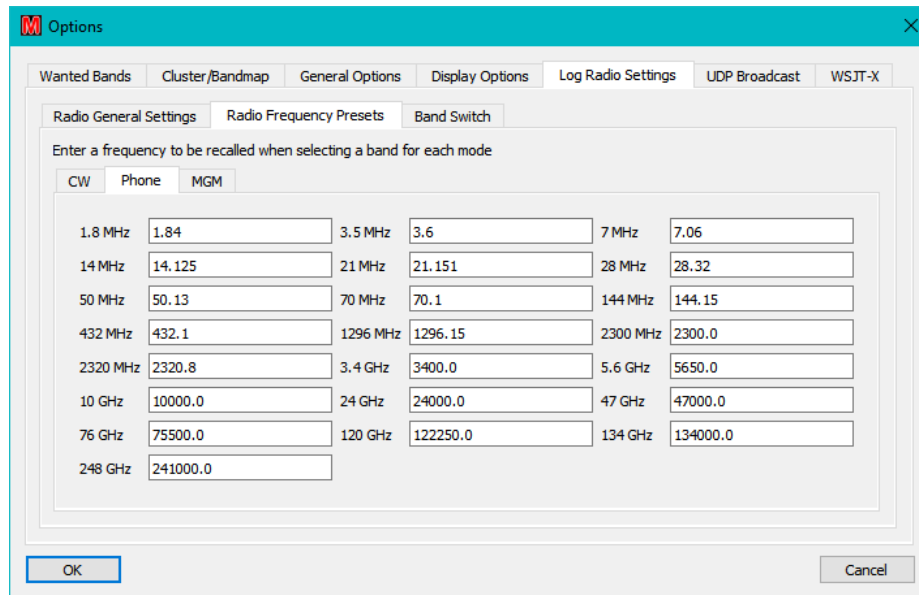
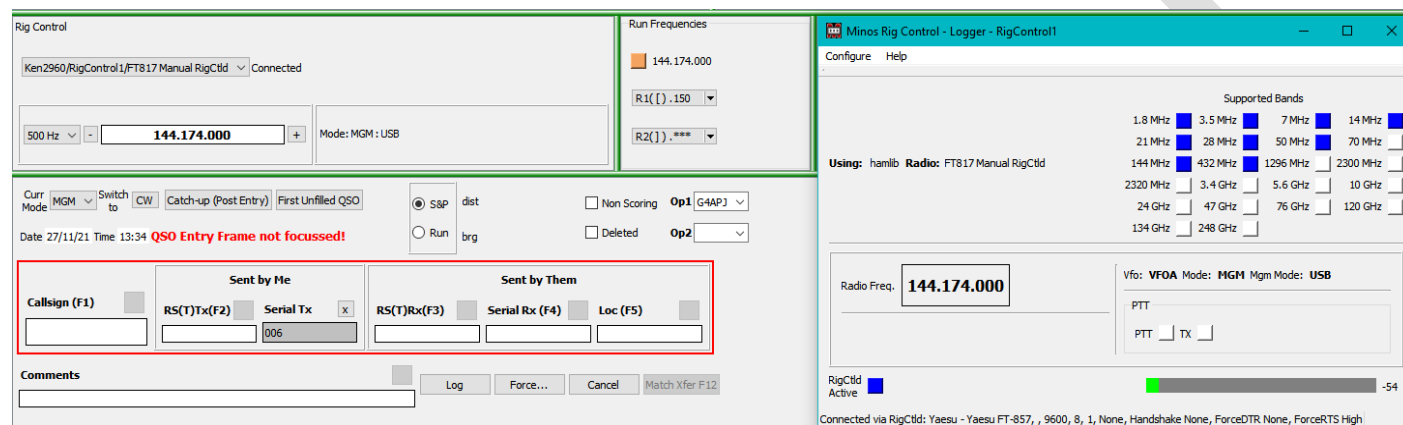
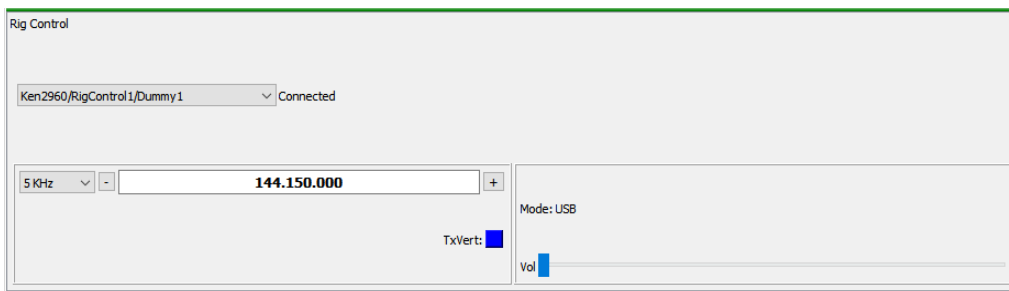

Figure 85 – Setup Band Frequency
Figure 87 – RigControl connected to Logger
Figure 90 – RigControl panel within Logger
The ‘**Radio Name**’ field is used within a contest to select (or display) which rig is currently being controlled (e.g. in Figure 87). Once defined, it may be changed using “**Edit Radio Name**” or removed (provided it is not currently active within the Logger) using the “**Remove Radio**” button.
- The ‘**Radio Frequency Presets**’ tab (Figure 85) displays the table of ‘base frequencies’ with a tab for each mode of CW/Phone/MGM. These define the frequency the rig goes to when a contest is opened or when a “**Quick Sel**” band change is made from the Rigcontrol panel of the Logger (Figure 87). The default
Once configured to operate in conjunction with the Logger a contest may utilise the rig selected within the application, and the RigControl panel becomes visible in Logger (see Figure 87). As can be seen, because the application is connected to the Logger, it shows ‘Logger’ in the title, together with the name assigned to the instance of the app being used they are using (RigControl, by default).
Within the RigControl panel (see Figure 90) on the top left is the name of the selected radio and its status which should normally be **‘Connected’** for correct operation⁸¹.
If the selected radio supports RIT (through CAT) it can be enabled through the RigControl panel (see Figure 90) and it will then become visible in the RigControl panel within Logger (see Figure 16). **Turning it on (Figure 87)** then allows incremental tuning using the mouse wheel in the same manner as for the main frequency. A specific RIT frequency can also be entered, although that is unlikely to be very useful. There are a number of shortcut keystrokes available - listed in Figure 177.